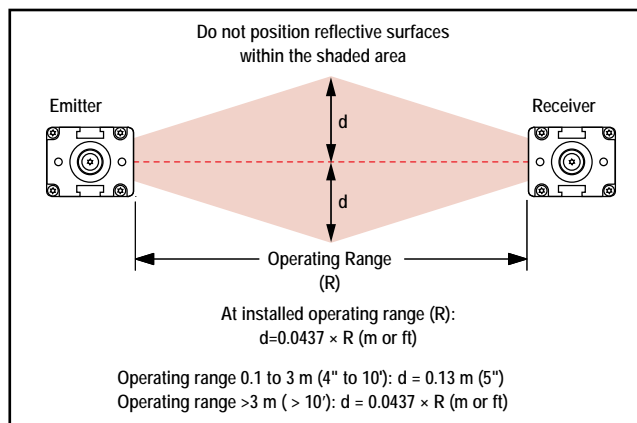

Figure 3-6. Adjacent reflective surfaces
A reflective surface located adjacent to the defined area may deflect one or more beams around an object in the defined area. In the worst case, an “optical short circuit” may occur, allowing an object to pass undetected through the defined area (see Figure 3-6).
- If possible, **relocate the sensors** to move the beams away from the reflective surface(s), being careful to maintain adequate separation distance (see Figure 3-6).